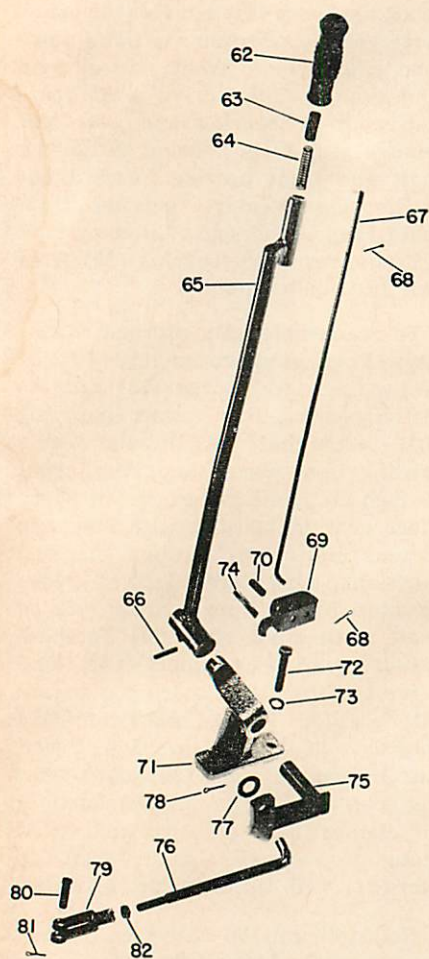
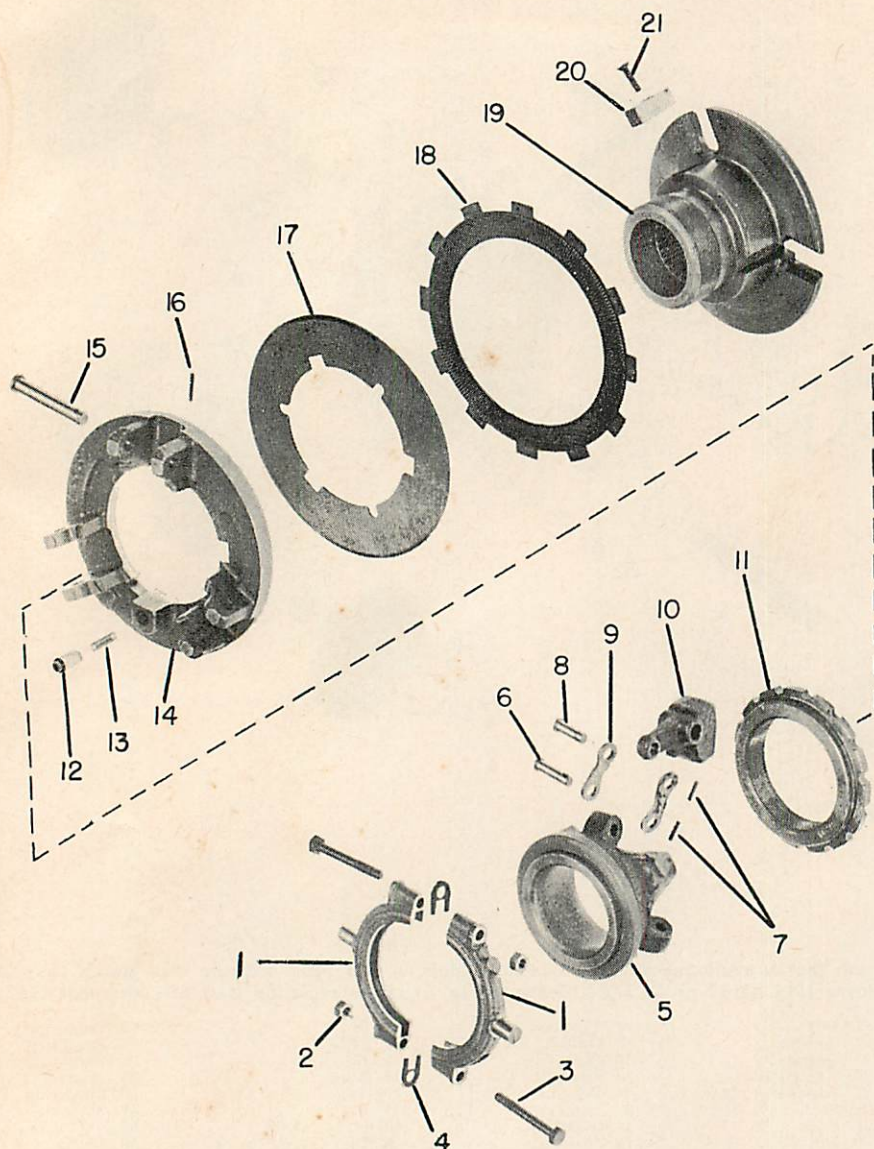

Fig. O137 — Pto clutch lever assembly and linkage for dual speed power take-off. Latch (69) locks lever in disengaged position.
Fig. O139 — Exploded view of the multiple disc clutch assembly used in dual speed pto. Refer to Fig. O138 for complete pto assembly.
ing and rotate clutch assembly so that adjusting ring lock pin (12—Fig. O139) can be seen through plug opening. Depress the lock pin and turn adjusting ring (11) with screwdriver. Turn ring to left to increase pressure, or to right to decrease pressure required to engage clutch. Clutch adjustment is correct when 48-52 pounds pull is required to engage clutch. Adjustment can be checked with a spring pull scale attached to control lever just below the lever grip. Move adjusting ring just one notch at a time and recheck clutch adjustment. When adjustment is correct, reinstall pipe plug.
225. CONTROL LEVER ADJUSTMENT. Refer to Fig. O137. The yoke (79) should be adjusted on rod (76) so that clutch control lever is locked firmly in disengaged position by latch
For disassembled view of the clutch assembly, refer to Fig. O139. Drive out the roll pins (16), remove pins (15), sliding collar (5), levers and sleeve collar (1) from floating plate (14). Depress locking pin (12), unscrew adjusting ring (11) and remove adjusting ring, floating plate and clutch discs from clutch hub (19). Any further disassembly which may be required is evident from inspection of unit.
Fig. O138 — Exploded view of dual speed pto unit that is available on Series 1650 models. A wet type multiple disc clutch (51) is used; over center linkage is actuated by hand lever (Fig. O137 or O137A). Refer to Fig. O139 for exploded view of clutch unit (51).